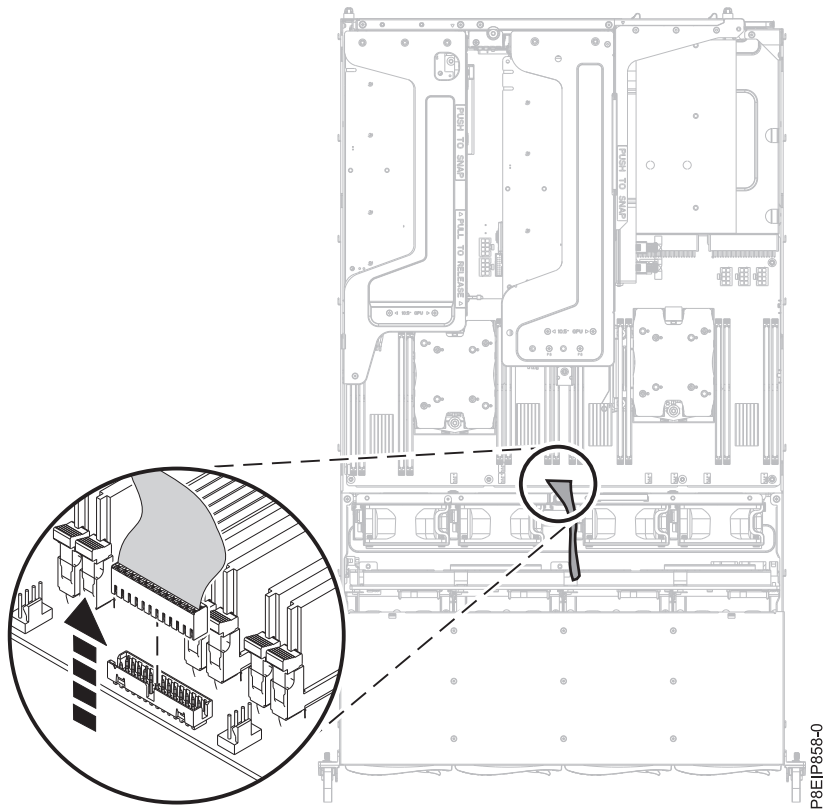

Figure 61. Removing the operator panel cable
6. Remove the operator panel cable from the system backplane as shown in Figure 61 on page 50.